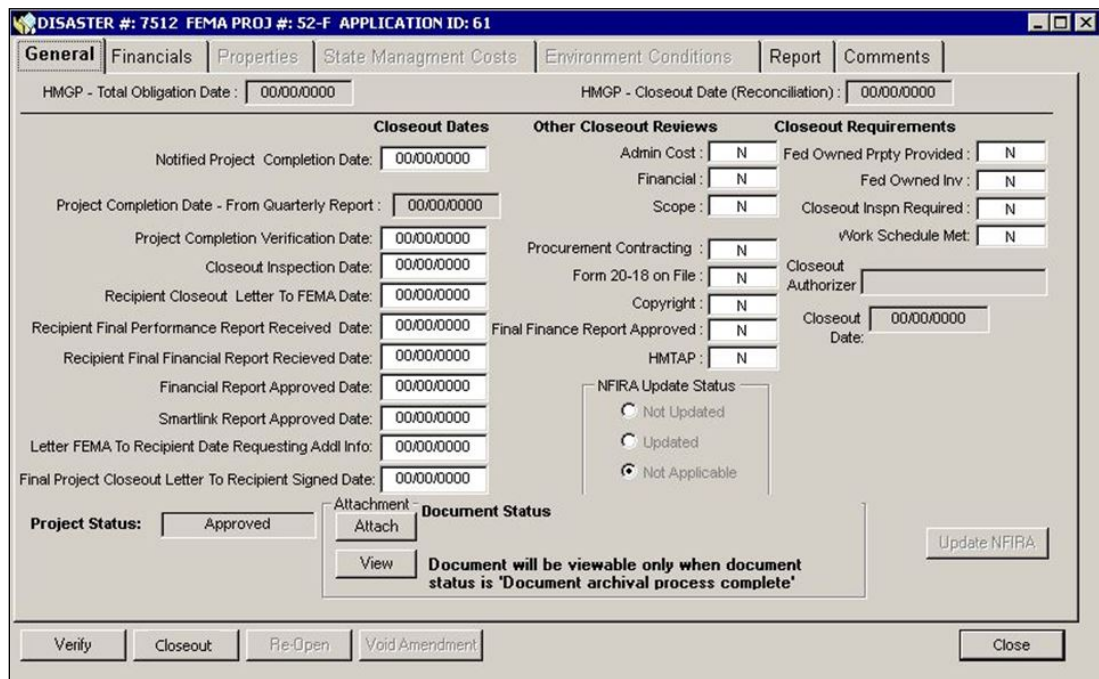

Figure 12-11: Mitigation >Projects >Closeout >General Tab
1. After selecting the project in the Project Closeout List, the project closeout tabs are displayed. The **General** tab is displayed by default (Figure 12-11).